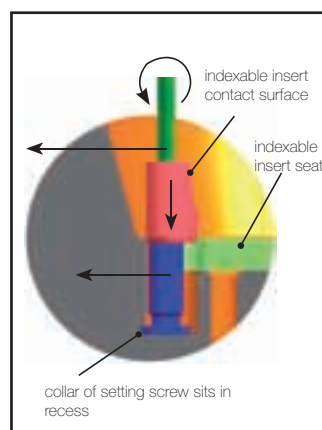

Fig. 2: ASSEMBLY
3. Using the hexagonal key push the setting screw into the radial recess at the base of the bore and screw-in the wedge anticlockwise. When doing this the indexable insert contact surface on the wedge must be positioned towards the indexable insert seat (push the wedge from above onto the setting screw, so that the thread of the wedge can locate onto the setting screw). If when screwing in the wedge the collar of the setting screw "jams" in the location bore (noticeable through the setting screw being difficult to turn), push the entire adjustment unit fully into the location bore with the hexagonal key, if necessary resolve "jam" via clockwise rotation (fig. 2).